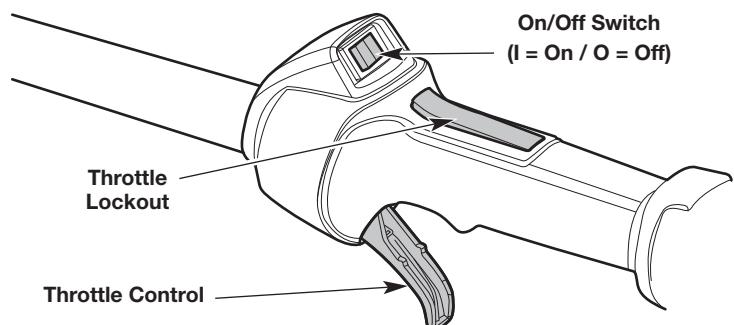

Fig. 14
NOTE: There is no need to turn the unit on. The On/Off switch is in the **On (I)** position at all times (Fig. 14).
NOTE: DO NOT squeeze the throttle control until step 8 (Fig. 14).
8. Press and hold the throttle lockout (Fig. 14). Squeeze the throttle control as needed for operation (Fig. 14).
2. Press and hold the On/Off switch in the **Off (O)** position until the engine comes to a complete stop (Fig. 14).
10. Press and hold the throttle lockout (Fig. 14). Squeeze the throttle control as needed for operation (Fig. 14).